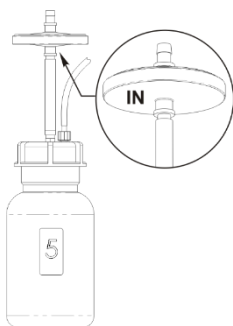

Figure 11. Filter mount
- 10.6. Filter replacement (fig. 11). It is recommended to change the hydrophobic filter once in six months; in particular cases, e.g. at intensive operation, once in three months (to order the filter, you have to know the product identification number, see the table in Specifications chapter). Disconnect the filter from outlet tube, remove the filter, insert a new filter into the socket and tighten it.
Maintain the mounting of the filter according to figure 11. The "IN" marking should be located on the side of the inlet tube (facing the bottle).